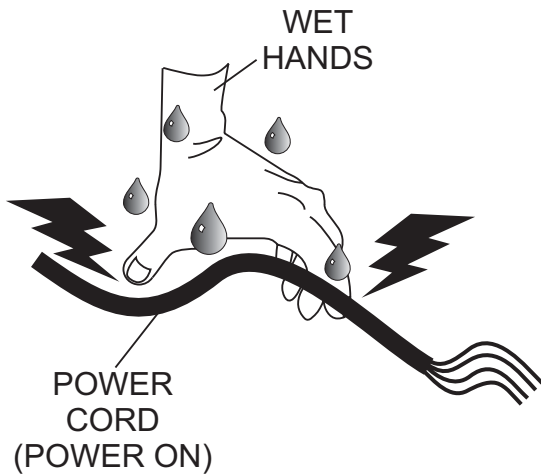

Figure 16. Power Cord (Wet Hands)
4. **NEVER** grab or touch a live power cord (Figure 16) with wet hands, the possibility exists of *electrical shock*, *electrocution* and even *death*.